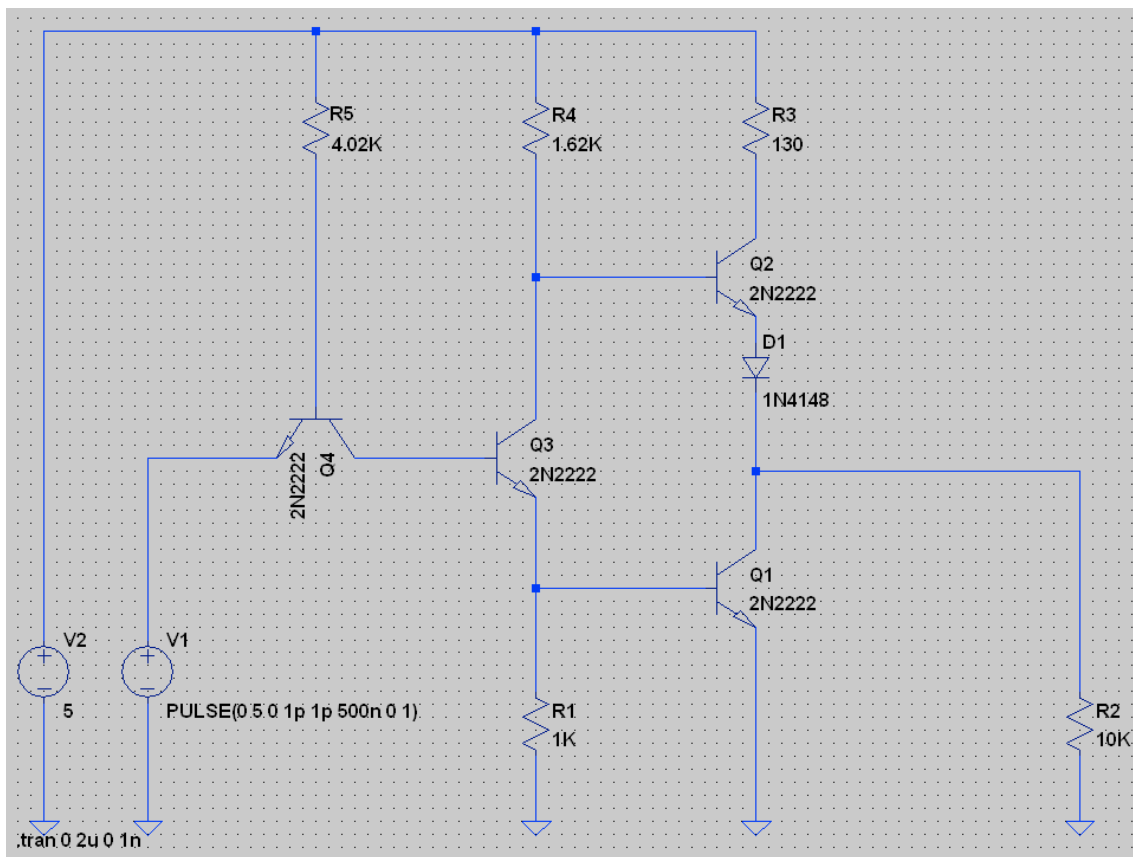

Figure 2: TTL inverter logic gate.
- 2.1. Close your schematic from Section 1 and create a new one called **TTL inverter**. Construct the TTL circuit shown in Figure 2, being careful to use the resistor values provided. Note that here we have substituted the Q2N2222 for the actual BJTs used in a TTL inverter circuit. Resistor  $R_L$  is used to model a load. The input pulse voltage should be 0 - 5V with duration 500 ns.